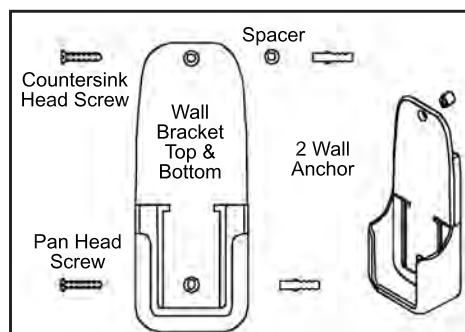

Figure 56: Wall Bracket Installation Option 2.
2. Mounted to wall with top and bottom of bracket; refer to Figure 56 (most common).